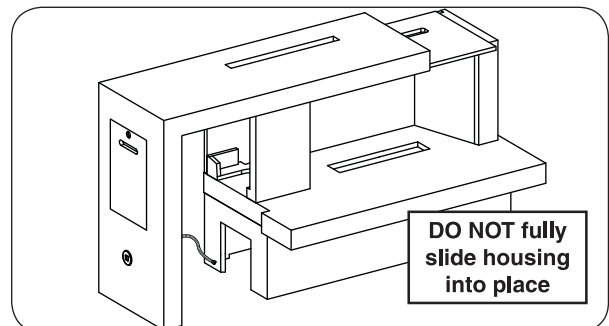

Fig. 16-3 Place housing in position
7. Place the housing piece in position, allowing enough space on the left side of the unit to make the gas connections. (see Fig 16-3.)